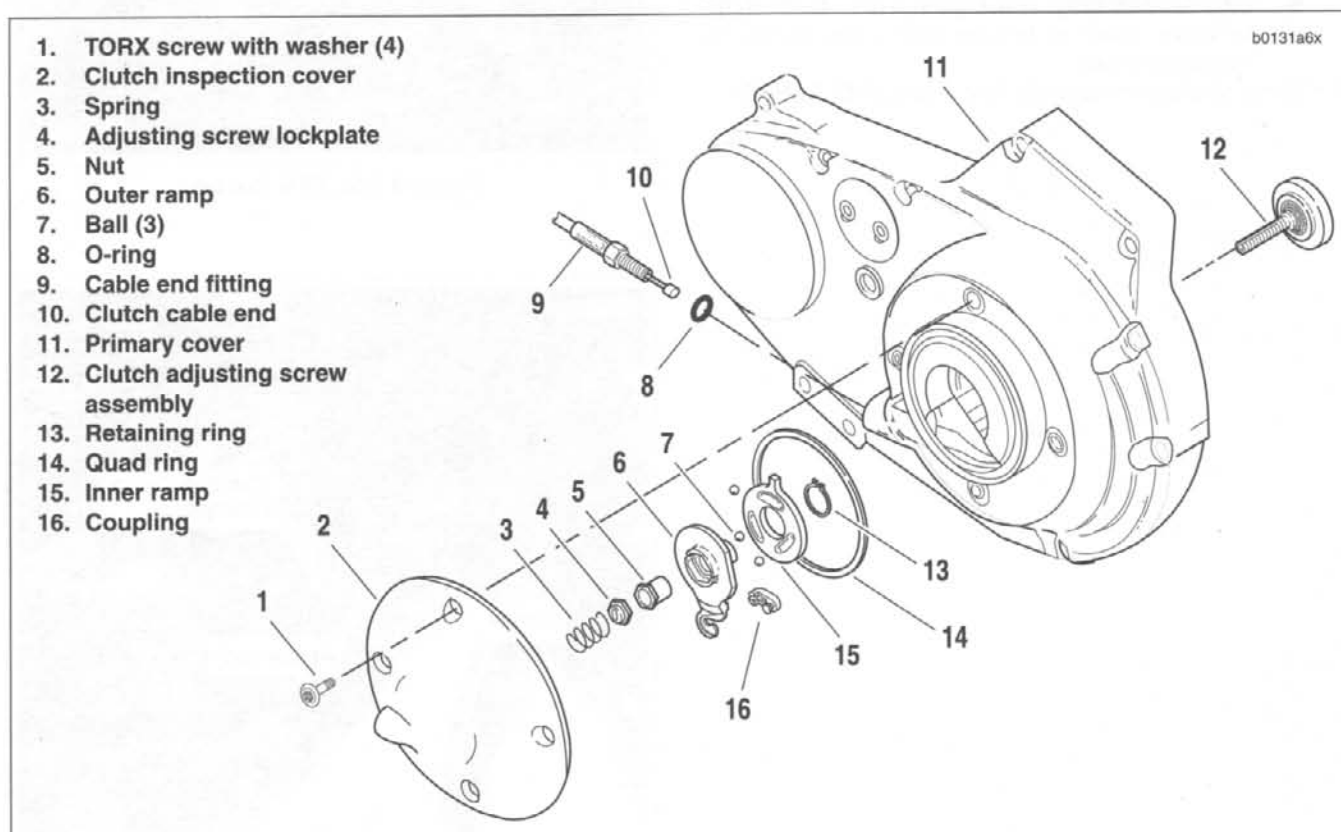
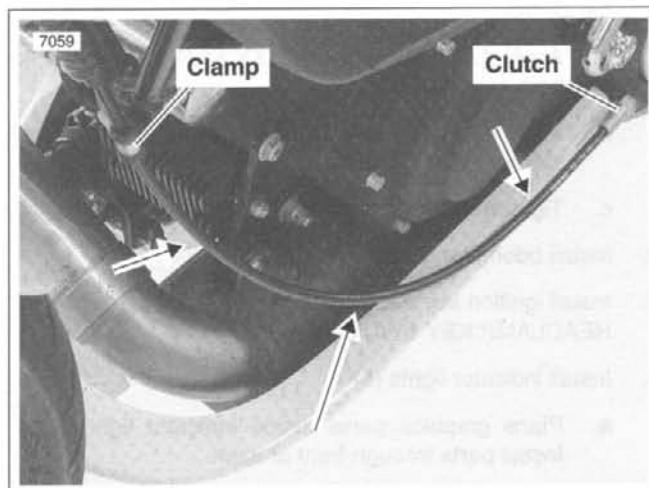

Figure 2-132. Clutch Release Mechanism
Figure 2-134. Clutch Cable Routing, Lower
2. See Figure 2-132. Remove four TORX screws (1) with washers and clutch inspection cover (2). Do not damage or dislodge quad ring (14) in primary cover (11).
3. Slide spring (3) with attached hex lockplate (4) from flats of adjusting screw (12).
4. Turn adjusting screw clockwise to release ramp and coupling mechanism. As the adjusting screw is turned, ramp assembly moves forward. Unscrew nut (5) from end of adjusting screw.
5. Remove hook of ramp (6) from button at the rear of cable end coupling (16). Remove cable end (10) from slot in coupling.
6. Turn cable end fitting (9) counterclockwise to remove clutch cable lower section from primary cover (11). Remove O-ring (8) from cable end fitting.
1. See Figure 2-132. Install O-ring (8) over cable end fitting (9) of clutch cable lower section. Turn fitting clockwise to install into primary cover (11). Tighten to 3-5 ft-lbs (4.0-6.8 Nm).
2. Fit coupling (16) over cable end. Place hook of ramp around coupling button and rotate assembly counter-clockwise until tang on inner ramp (15) fits in slot of primary cover (11).
3. Thread nut (5) on adjusting screw (12) until slot of screw is accessible with a screwdriver. Fit nut hex into recess of outer ramp (6) and turn adjusting screw counter-clockwise.
- a. See Figure 2-134. Route cable along left side of primary chaincase and up to clamp on front isolator tie bar. Cable must not touch chin fairing.
- d. See Figure 2-134. Route cable down left side of bike, through clamp, along primary chaincase to clutch. Cable must not touch chin fairing.